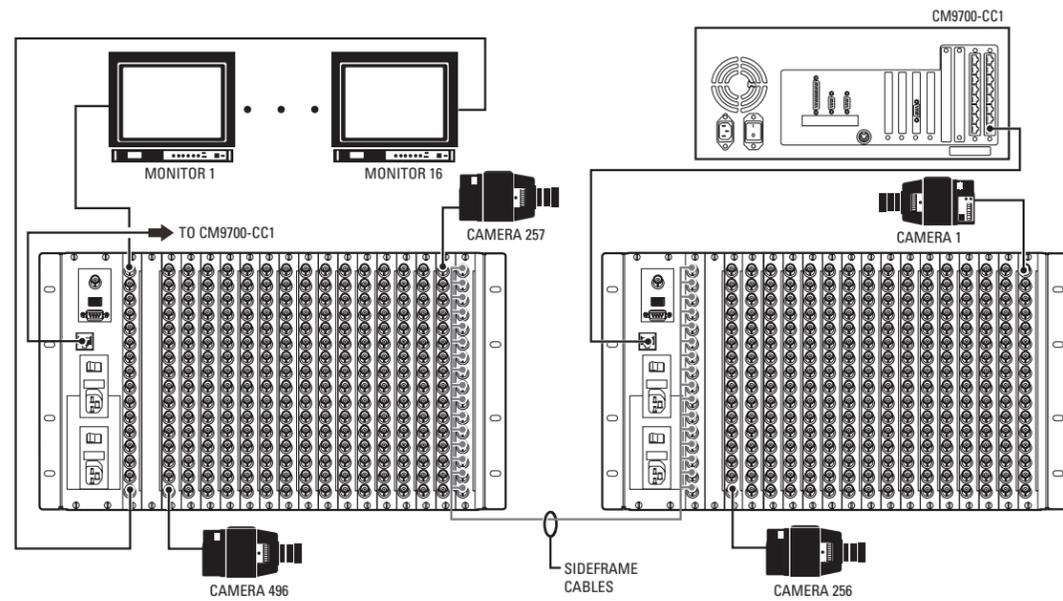
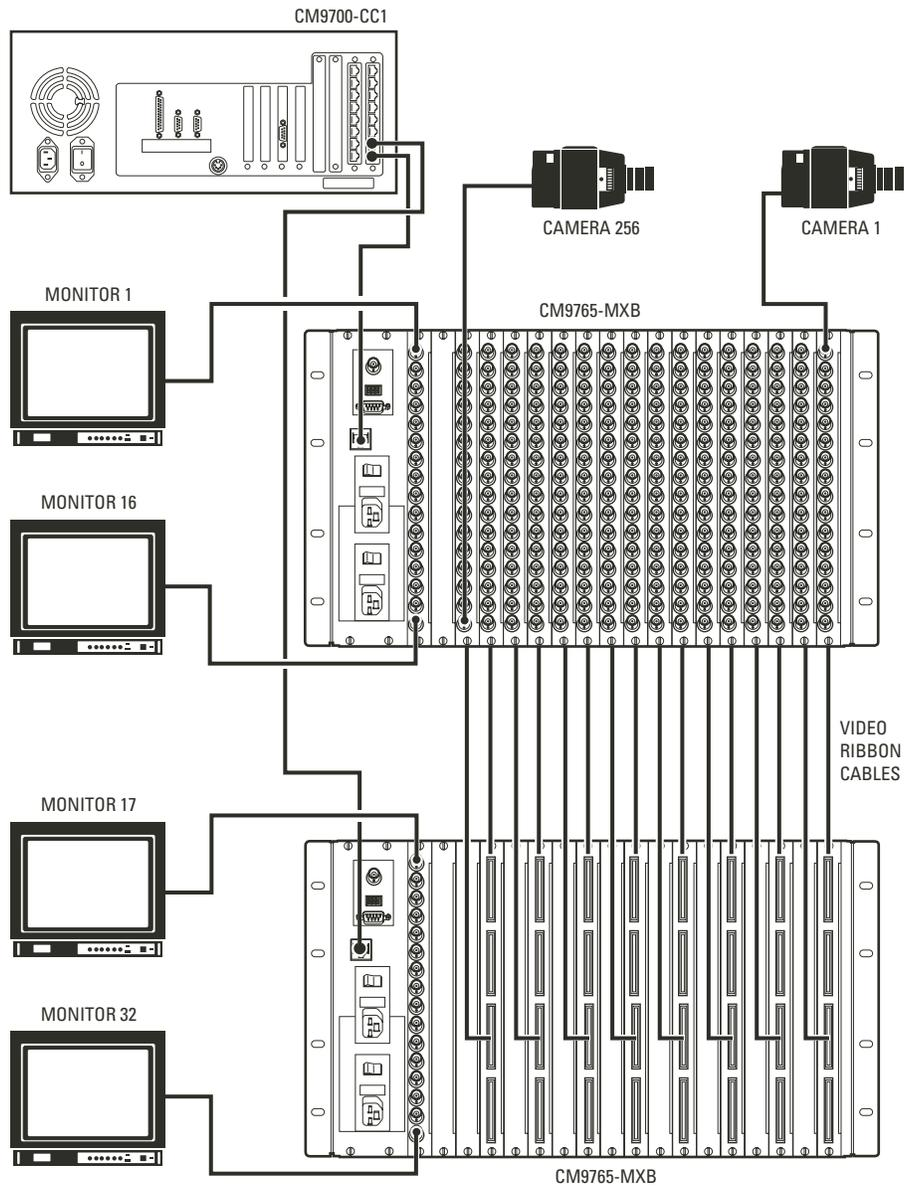

Figure 13. Sample System Using Sideframing from Bay to Bay
Figure 15. Sample Single-Node System with Downframing
Figure 13 and Figure 14 illustrate sample sideframing configurations. Figure 15 illustrates a sample downframing configuration.
- Sideframe Option A (refer to Figure 13):
- Downframing—To expand the matrix video outputs beyond 16, you can loop the video from the first CM9765-MXB to subsequent CM9765-MXB units for an additional 16 monitor outputs on each matrix bay. Refer to Figure 15.